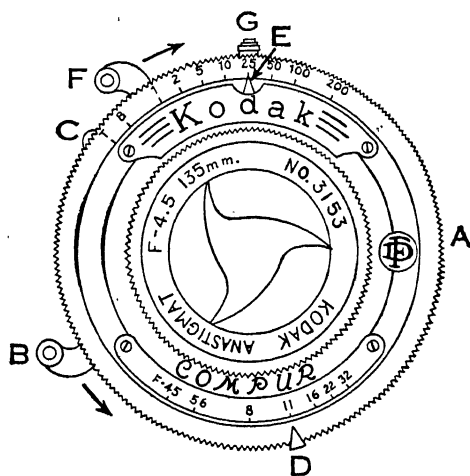

FIG. 14. THE SHUTTER
*Setting the Shutter.*—Let us suppose that we have discovered the length of the exposure and the *f*: stop by one of the methods just described. We are ready to set our aperture and shutter. Most cameras have what is called a “between-lens” shutter, so called because it operates between the units of the lens, where the diaphragm for stopping down also operates. Such shutters are made up of thin plates of metal sliding over one another in the same way as do the plates of the diaphragm. The diaphragm, however, makes a smaller or larger opening as it is moved by means of a lever (marked D in Fig. 14). The shutter, though acting in much the same way, is designed and built to open and close again slowly or quickly according to the tension put on the spring. Setting the exposure for different lengths of time puts the necessary tension on the spring or provides for the length of the exposure in other ways.
This setting may be made in several different ways, depending upon the make of camera being used. Some cameras have small levers with a pointer that can be set at different positions, but most cameras with between-lens shutters have knurled collars around the outside of the lens (see A, Fig. 14) that can be turned so that the figure for the length of exposure is brought opposite to a pointer
*Cocking the Shutter.*—Now that the dials are set for shutter speed and f: stop we next cock the shutter. On most between-lens shutters there is a small lever which must be pushed a short distance to set the spring or cock the trigger. In Fig. 14 this cocking lever is marked F and is pushed in the direction shown by the arrow. On box cameras it is not necessary to cock the shutter. Many of the miniature cameras set the spring by turning a knob on top of the camera (which also rolls the film in a few makes of cameras).
Now, with our camera all set to take the picture, and our view composed, we are ready to make the actual exposure. For box cameras the exposure is made simply by clicking the shutter, by moving the exposure lever either up or down, or simply by moving it if it is the kind that springs back into place. For most between-lens shutters the exposure is made by tripping a little lever, a sort of trigger, at the side of the lens mount (see B in Fig. 14). This releases the spring which opens and closes the shutter, and the shutter must again be cocked before another exposure can be made. Some folding cameras and most of the miniature cameras have the shutter release trigger in a more convenient position: at the top of the camera itself, or wherever it can most easily be reached by a finger, while the camera is held in normal picturetaking position, with the least possible jar to the camera itself.
*Cable Release.*—For between-lens shutters, and further to eliminate danger of moving the camera, there is an auxiliary device, known as a cable release, that may be attached. The cable release consists simply of a flexible wire in a tube screwed into the shutter (at position C in Fig. 14). When the disk at the end of the tube is pressed, the wire inside the tube enters the shutter and releases the spring. Many cameras come equipped with short cable releases, 5 to 7 inches in length, though it is possible to buy much longer cables, especially valuable for portrait work, and it is even possible to use a cable many yards in length for making pictures of wildlife. Older type view cameras, or studio cameras, use a bulb release—simply a long tube with a bulb on the end of it. When the bulb is pressed, air pressure releases the shutter.